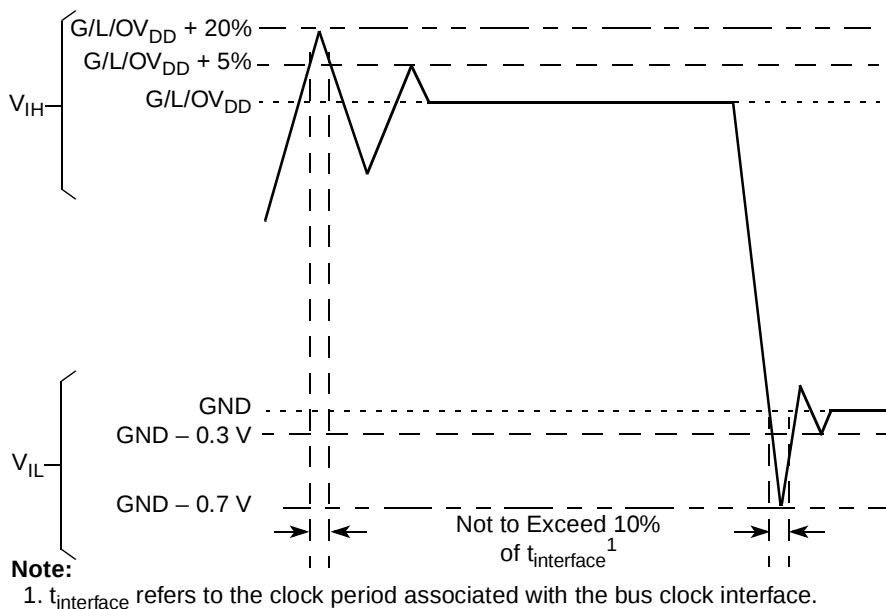

Figure 2. Overshoot/Undershoot Voltage for $GV_{DD}/OV_{DD}/LV_{DD}$
- ⁵ (M,L,O) V_{IN} and MV_{REF} may overshoot/undershoot to a voltage and for a maximum duration as shown in Figure 2.
Figure 2 shows the undershoot and overshoot voltages at the interfaces of the MPC8347E.